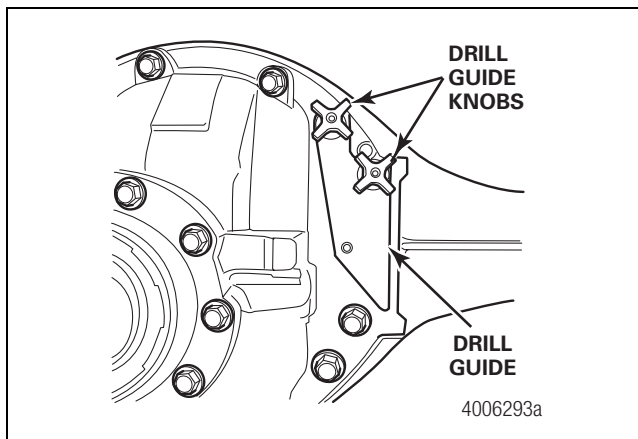

Figure 3
6. Install the drill guide onto the carrier by aligning the drill guide dowels with the carrier-to-housing holes. Hand-tighten the drill guide knobs to secure the drill guide to the carrier. Figure 3.